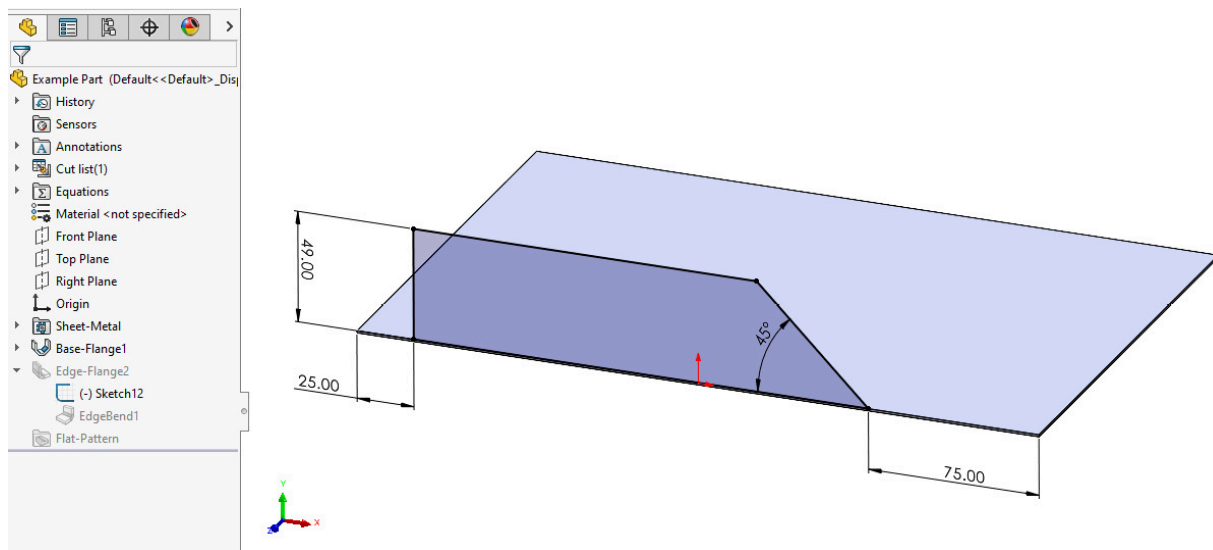

Figure 2.21: Editing the flange profile
7. Flange profile sketches can also be edited to change the shape of the Flange. For this example, the sides of the flange could be angled or curved (Figure 2.21). To create angled edges, it might be necessary to delete any existing Horizontal or Vertical Relations.
Two more minor options in the **Edge Flange** settings can be found at the bottom of the Property Manager and they are the **Custom Bend Allowance** and **Custom Relief Type** options (Figure 2.21). These allow the global **part** settings from the **Sheet-Metal** properties folder to be overridden for specific features. They can be used in exactly the same way as the options within the **Sheet-Metal Properties** feature, as covered in Chapter 1, Sheet Metal Basics – Exploring Sheet Metal Properties and Material Selection.